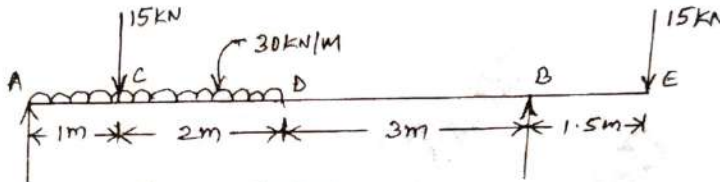

Fig. Q6(b)
b. Construct SFD and BMD for the beam loaded shown in Fig. Q6(b). Also locate the point of contraflexure.